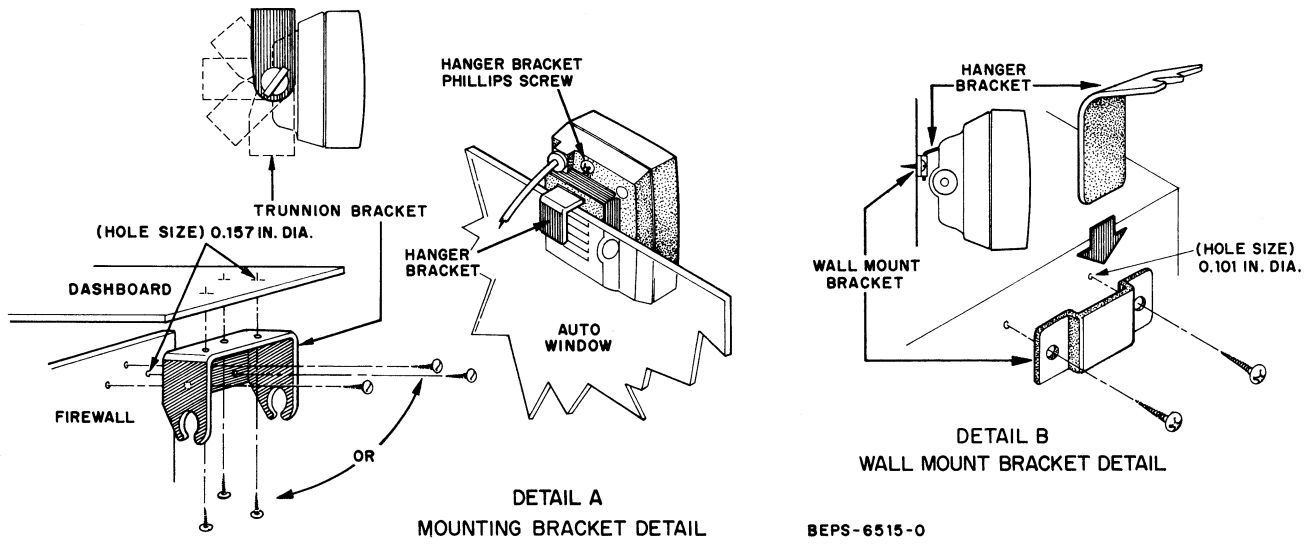

Figure 11.
b. Trunnion Bracket Installation Procedure (Refer to Figure 11, Detail A)
(1) Remove the trunnion bracket by loosening the two wing screws.
(2) Remove the three paper retainers and screws from the trunnion bracket.
(3) Remove the wall mount bracket from its taped position on the hanger bracket (retain for future use).
(4) Determine the location for installation. If space limitations require the removal of the hanger bracket, remove the Phillips head screw and slide the bracket out of the speaker housing (the speaker housing does not require disassembly to remove the hanger bracket).
(5) Using the trunnion bracket as a template, mark the location of the three desired mounting holes.
(6) Centerpunch and drill a 0.101" diameter hole at each location.
(7) Mount the trunnion bracket using the supplied screws.
(8) Remount the speaker into the trunnion bracket and tighten the two wing-screws
(9) Tie up surplus speaker lead cable.
(Refer to Figure 11, Detail B)